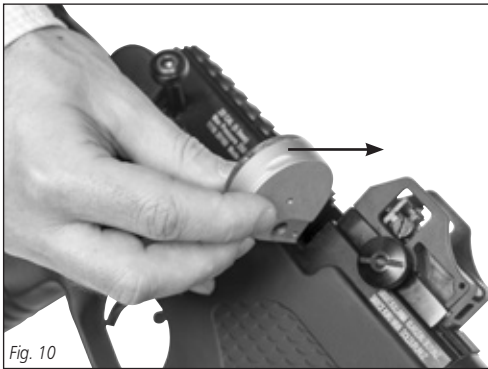

Fig. 10
5. With the transparent cover facing the butt of the rifle insert the magazine from the right side of the rifle and push it inwards all the way in until it's fully in place. (Fig.10 & 11)